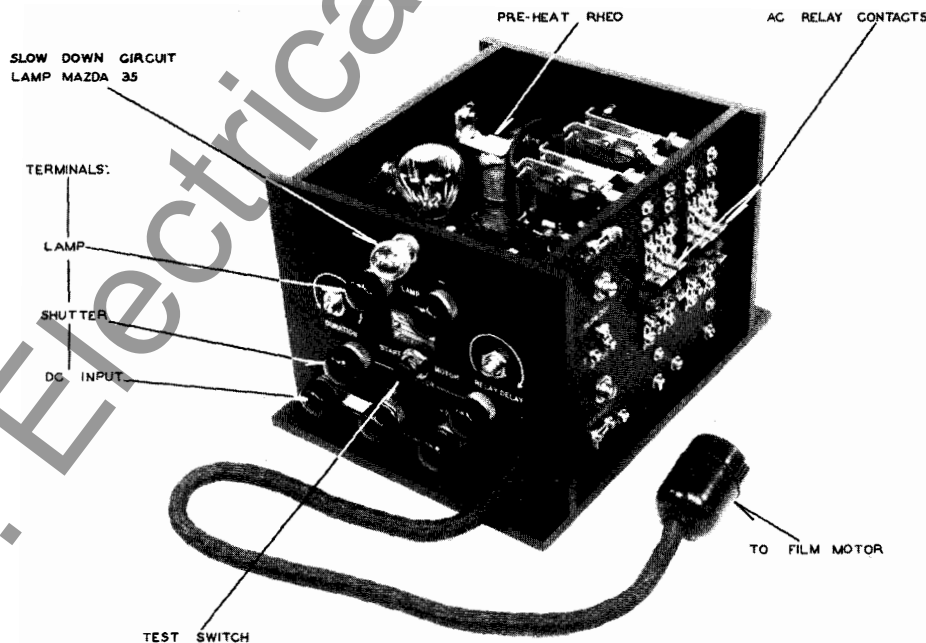
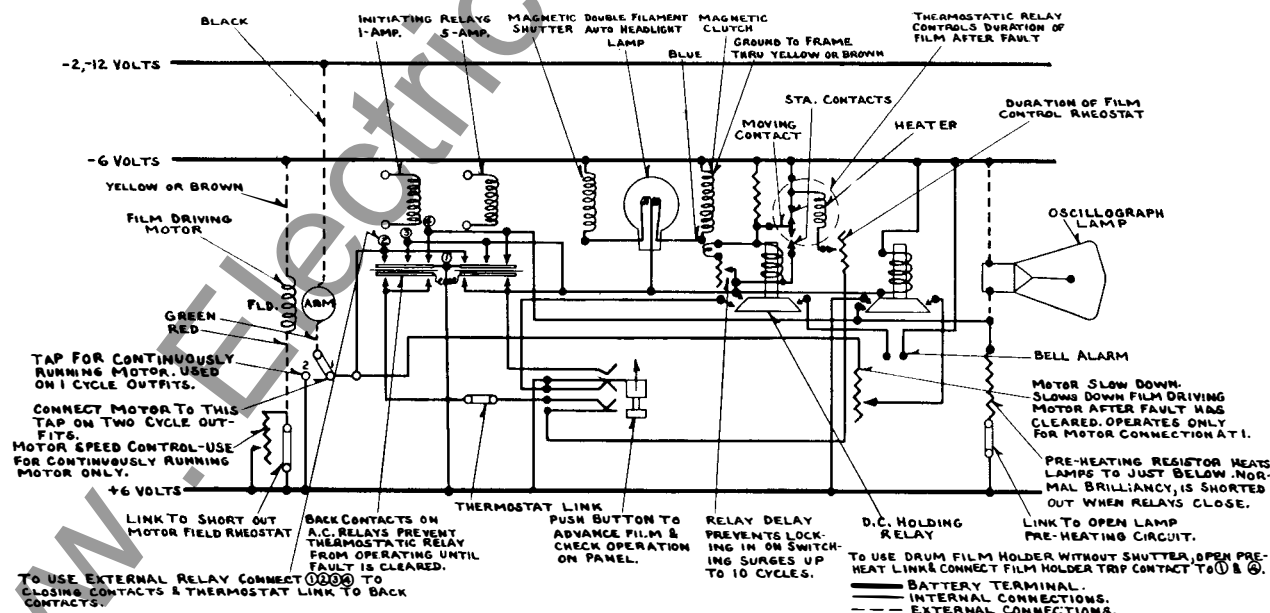

FIG. 40—THE AUTOMATIC PANEL, AS SEEN FROM A FORTY-FIVE DEGREE ANGLE, VIEWING THE D-C. AND RELAY PANELS.
FIG. 43—AUTOMATIC PANEL SCHEMATIC WIRING DIAGRAM.
This panel contains two a-c. relays, one of 1 ampere and the other 5 ampere rating for fault initiation, two d-c. relays for control and a thermostatic time limiting device for giving a predetermined time of operation after the fault has cleared. There is also present the current limiting resistor lamp for the heat resistor. The galvanometer lamp recommended for automatic operation is #1129, 21 c.p. Westinghouse Mazda Lamp. There are various control resistances for setting the motor into operation either with or without the magnetic clutch. There are terminals for connecting external fault relays and for the use of a bell alarm. The schematic wiring diagram, Fig. 43, illustrates these various functions. For a descriptive picture of the automatic panel see Figs. 40 and 41.
There is another feature surrounding this duration period after fault and that is a relay delay circuit to avoid these "holding relays" from locking in on the many short current surges such as switching surges and avoids the use of film unnecessarily. This "relay delay circuit" is adjustable from immediate closure of the "holding relays" to a sixth second or more after the closing of the "initiating relays". This delay is adjusted by means of a rheostat engraved, "RELAY DELAY". The rate of delay is obtained by controlling the rate of current flow through a miniature lamp (Westinghouse Mazda #35) mounted on the battery input side of the panel. In other words, the rate of heating up of the miniature lamp controls the potential across one "holding relay" and hence controls its closure. (See wiring diagram Fig. 43.)
The initiating relay contacts can be seen projecting from the internal panel toward the front of the oscillograph shown in Figs. 40 and 41. Each relay has five stationary contacts mounted on the panel wall, (three front and two back contacts.) Each contact is held in position by means of two screws tapped into the panel. The vertical position of the contact is adjusted by loosening these screws and sliding the contact up or down. The upper or the stationary closing contacts are adjusted at the factory to give about a 0.010 of an inch bend in the spring of the closing contacts of the relay when closed. That is, in measuring the gap between the contacts, the measurement of the gap of the front contacts while the relay is open and is about 0.010 of an inch more than the measurement of the back contact gap, while the relay is closed. The contact opening is controlled by adjusting the position of the lower stationary contacts only. And this should be the only adjustment necessary. By the adjustment of this contact opening, the current required for closing is obtained. The two tables, Fig. 42, give the approximate gap settings to obtain the desired closing currents—given in per cent of panel engraved currents.
(E). On this panel, (See Fig. 40) are shown the small relay-delay lamp at the top (Westinghouse Mazda #35), two terminals for the lamp lead connections, the "duration" and "relay-delay" resistance adjustments (for description of operation see Section under application and operation, the shutter lead connections, push button switch in the center, and the battery lead connections and the filmholder cable extension at the bottom.
This "double-filament" lamp is the standard 32 c.c. automobile lamp (Westinghouse Mazda #1000). This lamp is a speed-increasing device. The magnetic clutch is connected in series with one of the double filaments of the lamp and the magnetic shutter in series with the other. (See wiring diagram Fig. 43, also see discussion under subjects "Magnetic Shutter" and "Magnetic Clutch"). The surge current of the lamp is ten to fifteen times its normal current. This surge current gives a quick snappy closing action to the clutch and a similar opening to the shutter. The operating current of the lamp is sufficiently large to keep both the clutch and shutter in their operating positions. Inasmuch as this lamp has the shutter and clutch coils in series with its filaments and also since it is in service
The "Full Length Potential Control Panel", S # 569048 is especially designed for use with the automatic oscillograph on electrical power system study. It occupies the full panel space on the lower left side of the oscillograph. The panel contains a bank of three single phase potential transformers which reduces the voltage from 120 to 0.6 volts over a frequency range of from 25 to 60 cycles per second. The panel can be used to control the potential to the galvanometers from the following systems: three phase three or four wire, two phase three wire, two phase four wire, three separate single phases, or any single phase. With the link system on the panel front, many combinations of connections can be made. Figs. 46 and 47 show two schematic wiring diagrams of the panel with a common connection to control the voltage to the galvanometers. The front panel view is shown in Fig. 43. A detail wiring diagram is supplied with the panel.